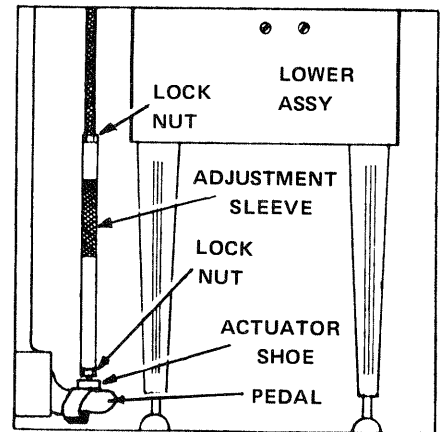

FIGURE 9-55 SOFT Pedal Actuator adjustment parts.
S. Roll the Vorsetzer up to the piano and install it. Check the adjustment of the SOFT Pedal Actuator. If it does not require adjustment, proceed to Point 'T'. If adjustment is required, loosen the Lock Nuts at the top and bottom of the Adjustment Sleeve (See FIGURE 9-55) and turn the sleeve CLOCKWISE to SHORTEN or COUNTERCLOCKWISE to LENGTHEN the Actuator, then tighten down the Lock Nuts after the adjustment is made.
T. Plug the Power Cord into the Circuit Interrupter and turn the Interlock and ① POWER Switches ON. Depress the ⑩ PLAY Button and observe the operation of the SOFT Pedal Solenoid. If it works properly, proceed to Point 'X' on page 152. If it requires a further reduction in thrust, NOTE THE CAUTION below, and proceed to Point 'U'.